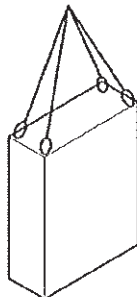

Fig. 13: Transport with a crane
1. ▸ Attach ropes, straps or multi-point suspension gear in accordance with Fig. 13.